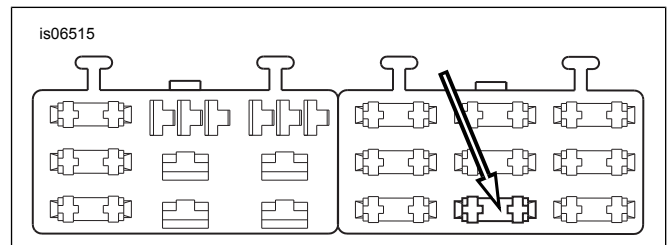

Figure 18. "OPEN" Fuse Block Cavity (2004 and Later Dyna)
4. See Figure 18. Locate the fuse cavity (1) indicated as "OPEN" on the fuse block cover in the right fuse block. Insert the terminal on the orange/white adapter wire until it stops. Refer to a nearby factory installed terminal for comparison to verify proper orientation and depth.